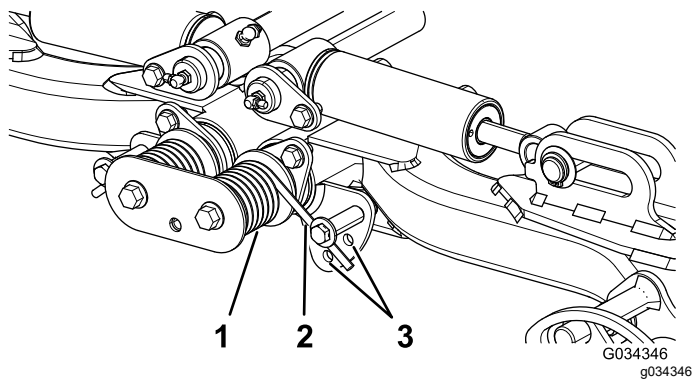

Figure 38
2. Insert a tube or similar object onto the long spring end to relieve the spring tension during the adjustment (Figure 38).
- While relieving the spring tension, remove the bolt and locknut securing the spring actuator to the bracket (Figure 38).